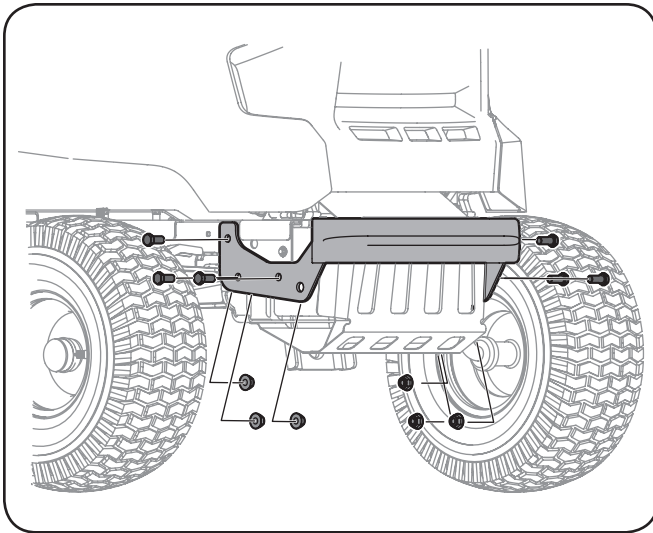

Figure 3-1
- Using two  $\frac{5}{16}$ " wrenches, secure the bumper to the tractor frame with six hex screws and flange lock nuts. See Figure 3-1.